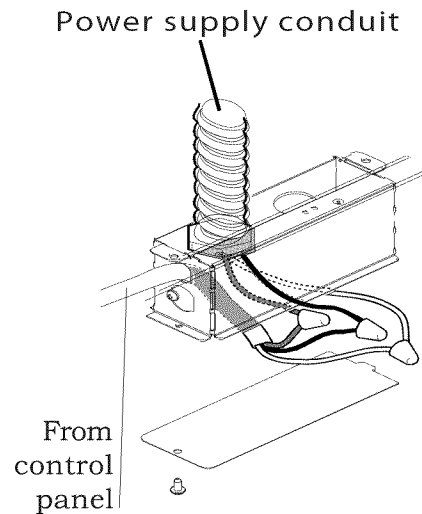

Figure 7
2. Remove the j-box cover as shown in Figure 7.